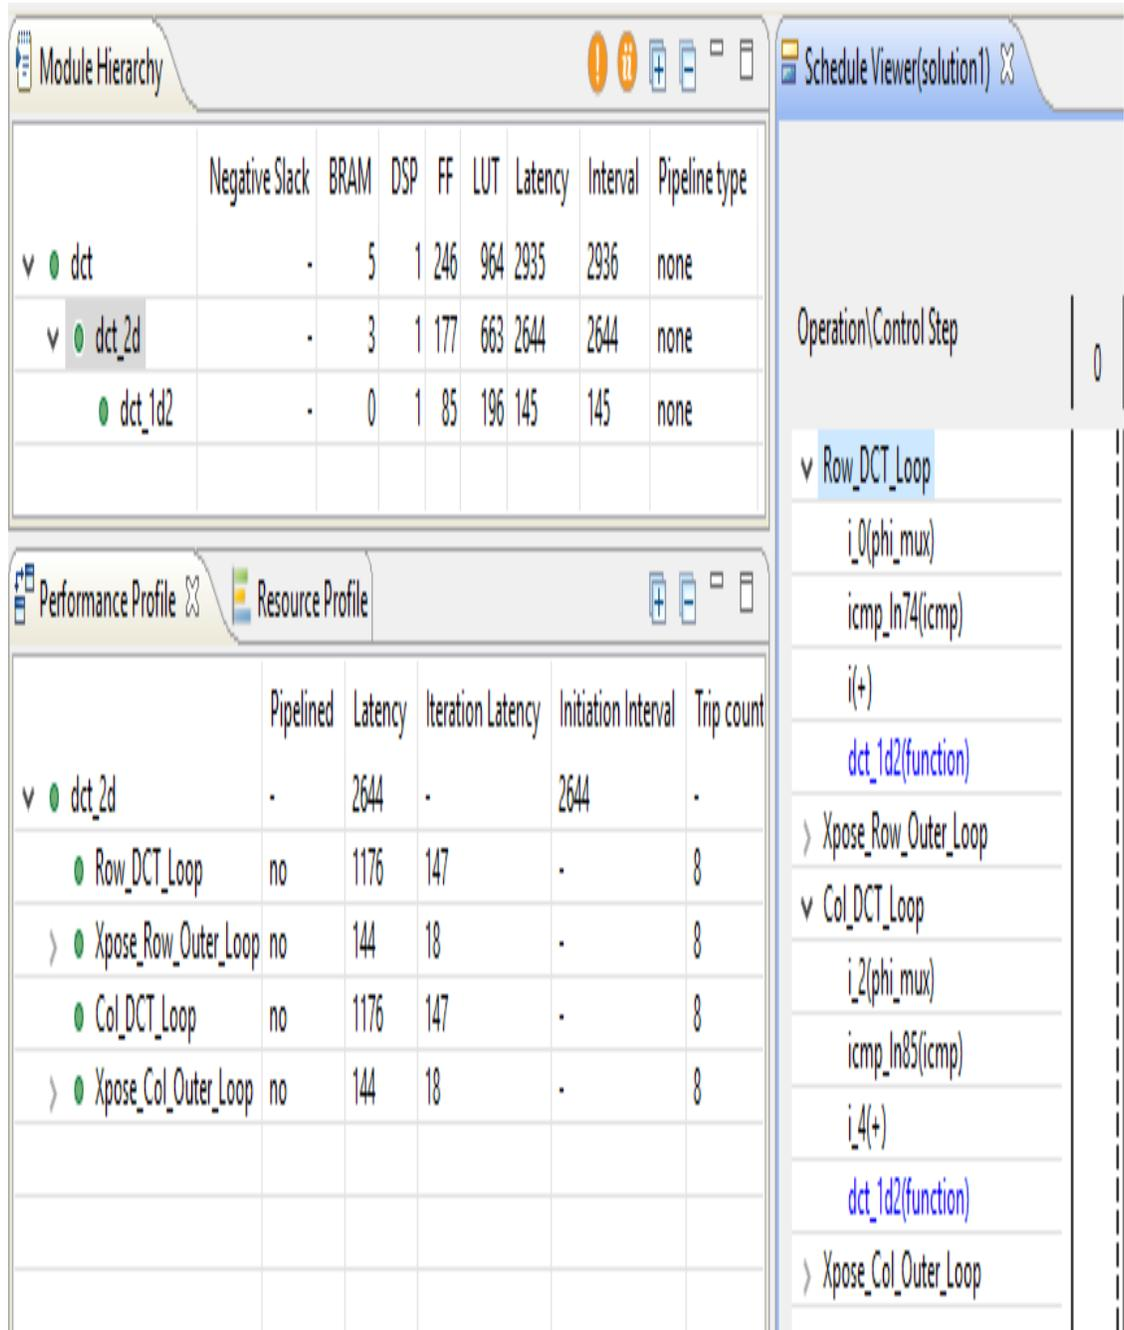

Figure 6-11: DCT\_1D Performance View
Again, you can see a number of loops (shown in Figure 6-11). Loops ensure the design will have small area but the design will take multiple iterative states to complete: each iteration of the loop will complete before the next iteration starts.
7. Click loops **Row\_DCT\_Loop** and **Col\_DCT\_Loop** of the **dct\_2d** block in the performance viewer to fully expand them, as shown in Figure 6-11.
9. Expand the loops in the **Performance Profile** and **Performance** view to see the view shown in Figure 6-11.
In Figure 6-11 you can see a series of nested loops (Row\_DCT\_loop, Col\_DCT\_Loop) that can be pipelined.